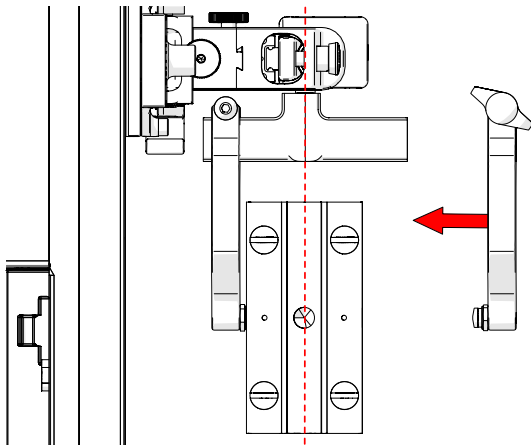

Fig. 123 - Align probe with yoke
8. Align the middle of the wedge with the centre of the yoke (Fig. 123).